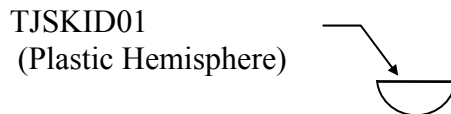

Figure 5. The front skids consist of plastic hemispheres that can be glued to the front of the robot to prevent excessive tilt when the MekArm™ is extended.
- Figure 5. The front skids consist of plastic hemispheres that can be glued to the front of the robot to prevent excessive tilt when the MekArm™ is extended. 11
The weight of the MekArm™, when extended out front, unbalances the robot and tilts it forward. To keep the tilt at a minimum, two plastic skids (Figure 5) can be glued at the intersections of the front cross piece and the two sides of the TJ Pro™ robot.